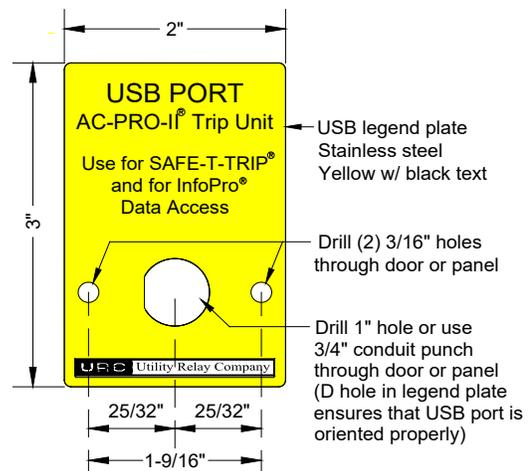

Figure 5.7: USB Extension Plate Drilling
1. Find a suitable location on the cubicle door and mark the three (3) holes using the dimensions in Figure 5.7.
2. Drill two (2) 3/16" mounting holes.
4. Attach the USB legend plate to the front of the cubicle door using the supplied two (2) 8-32 screws, nuts, and lock washers.